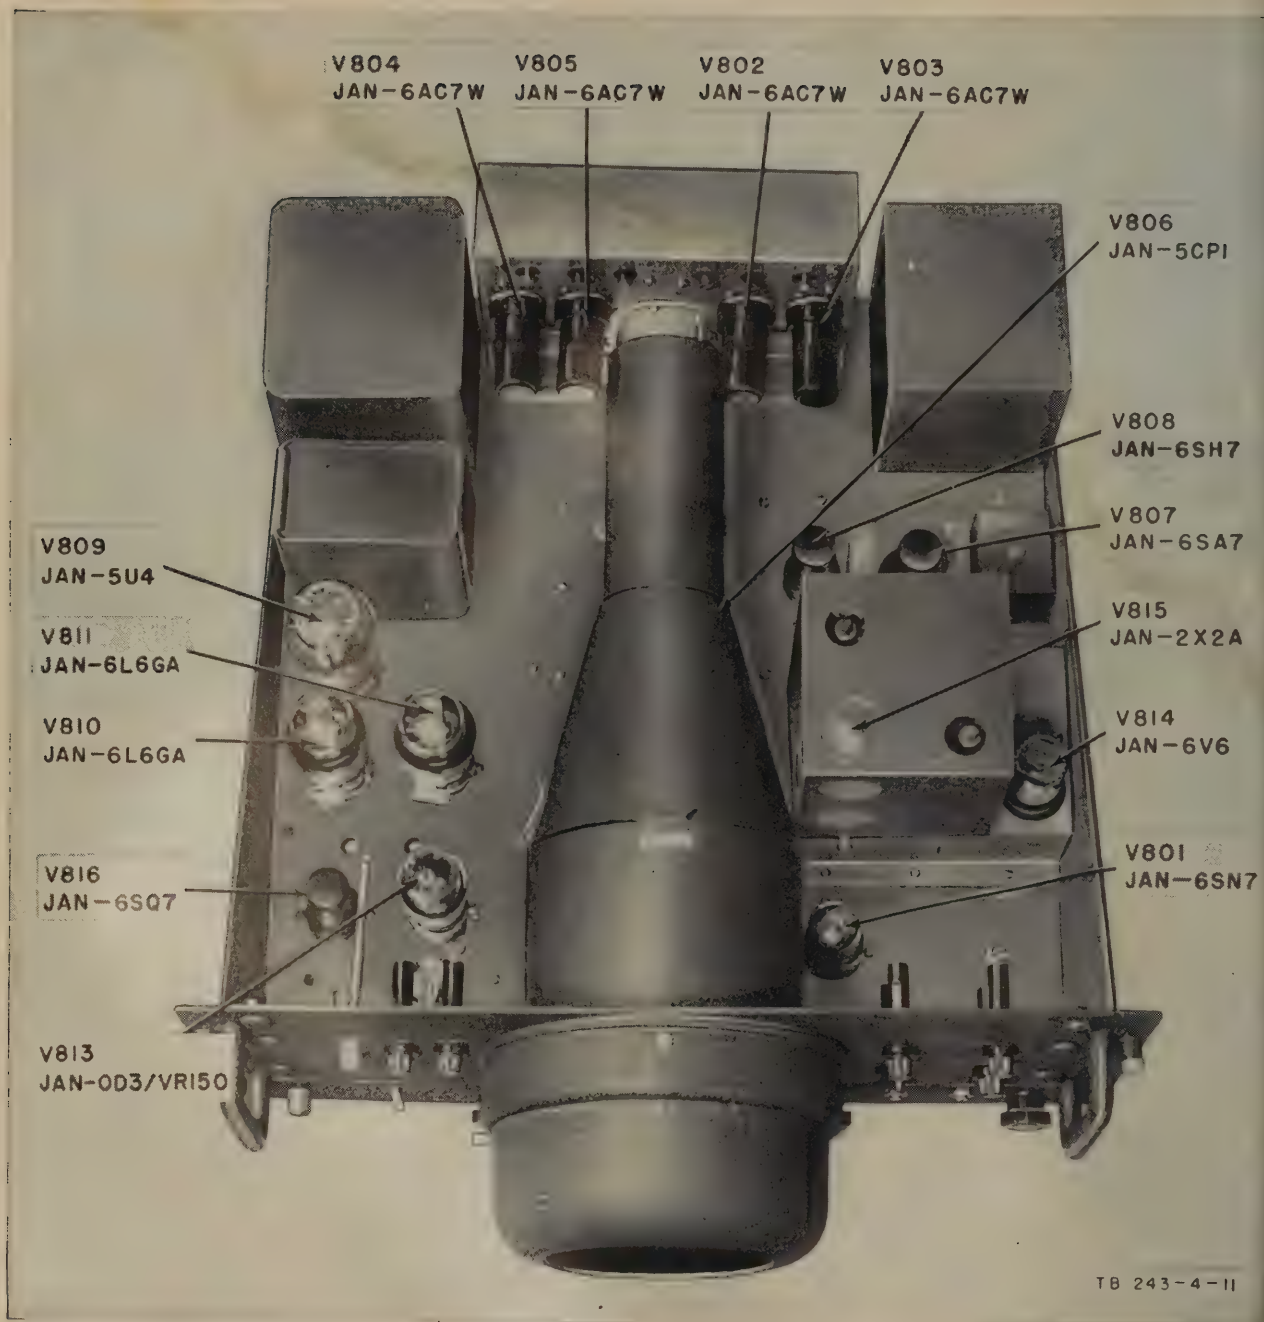

Figure 194. Bearing Indicator BC-1338, tube locations.
a. TUBES. Remove the tubes from their packing cases, making certain that all tubes are in good physical condition. Figure 194 shows the proper location of each tube in the indicator. The correct tube type number is stamped at the side of each tube socket. When inserting tubes in their respective sockets, aline the guide of the tube pin with the slot in the tube socket and push the tube straight down.
a. TUBES. Remove the tubes from their packing cases, making certain that all tubes are in good physical condition. Figure 194 shows the proper location of each tube in the indicator. The correct tube type number is stamped at the side of each tube socket. When inserting tubes in their respective sockets, align the guide of the tube pin with the slot in the tube socket and push the tube straight down.